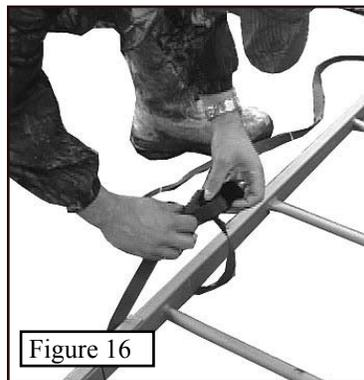

Figure 16
**Step 2.** Attach the two shorter straps with the ratchet to the bottom ladder column section. They should attach below the second to the bottom rung as shown in **Figure 16**. Wrap the end with the ratchet around the column and run it through the loop to create a cinch knot as shown in **Figure 17** and **Figure 18**.